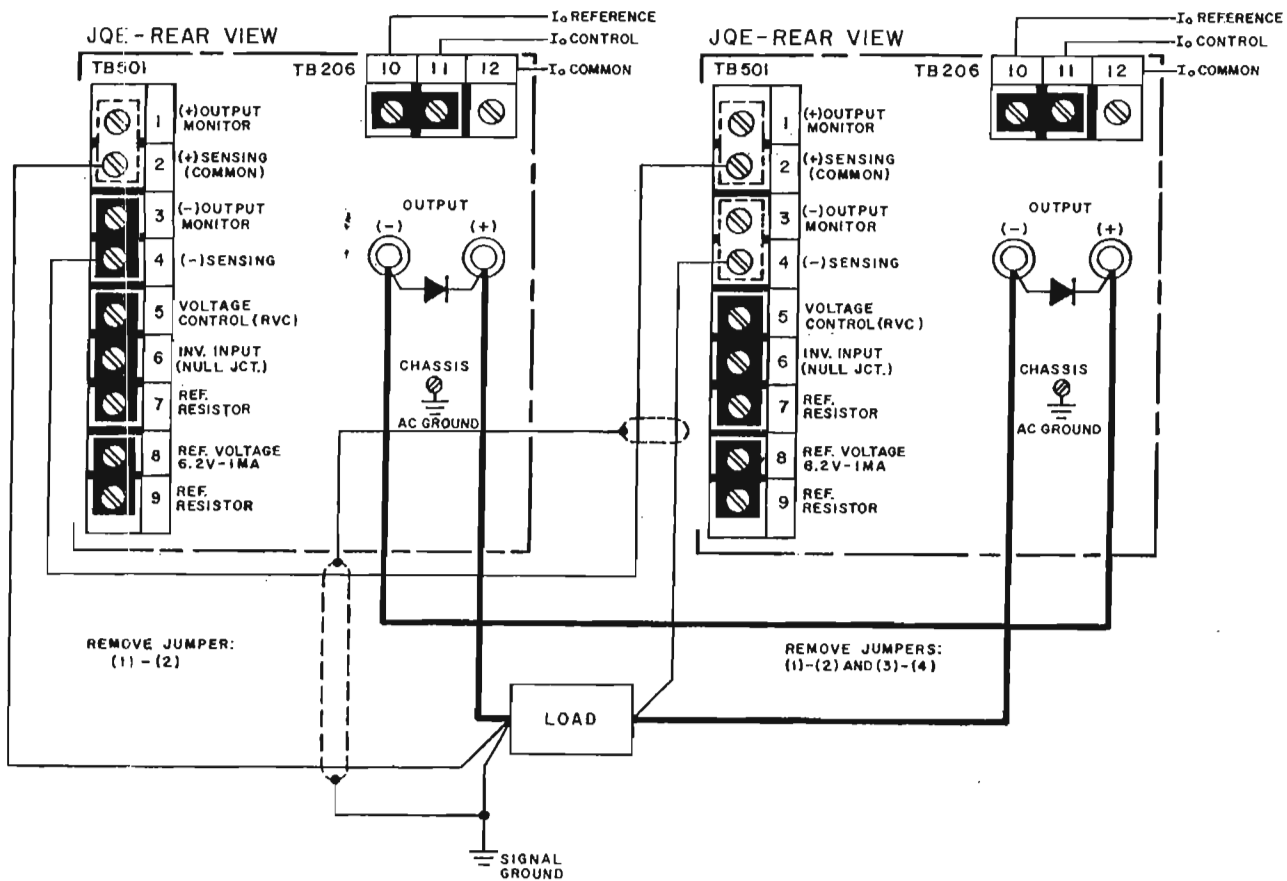
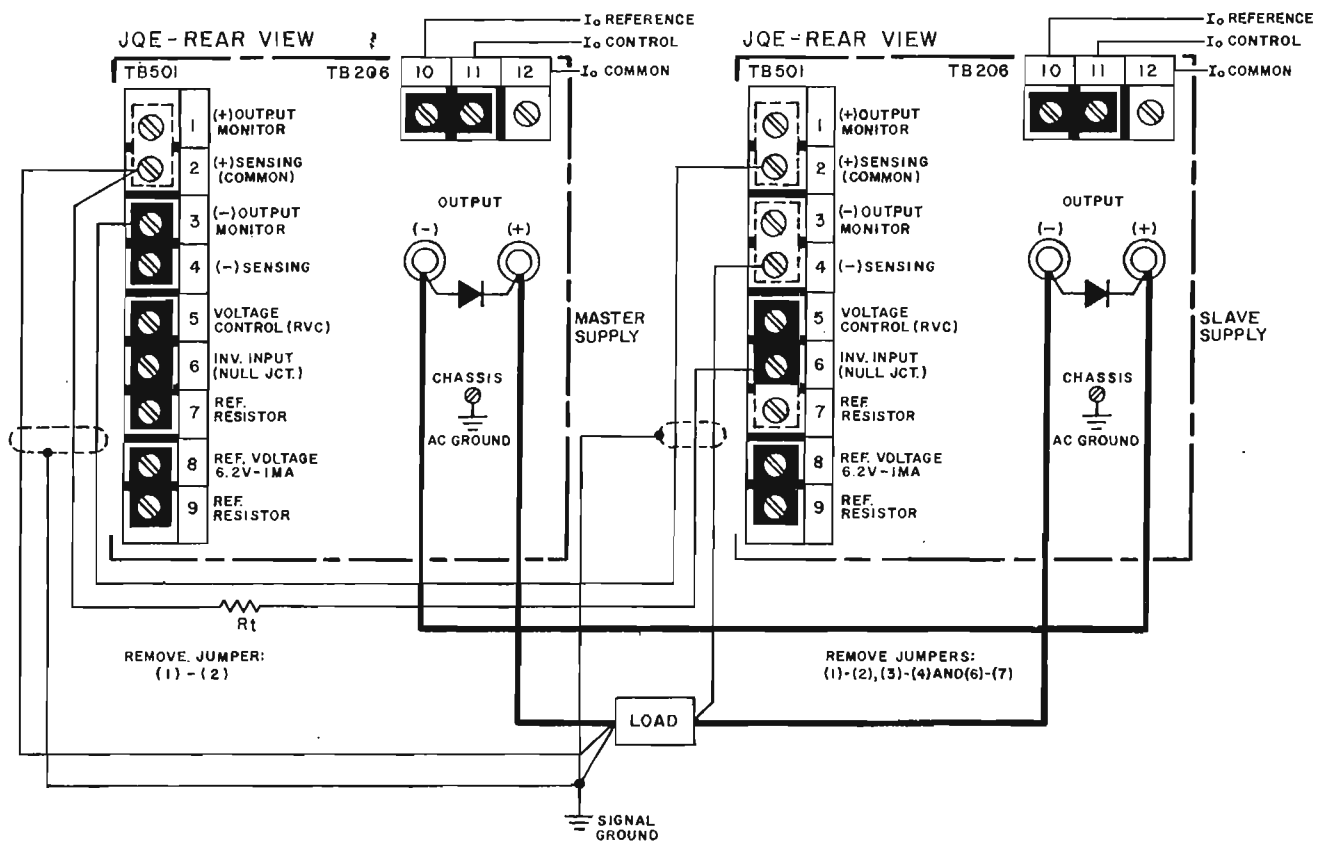

FIG. 3-18 AUTOMATIC SERIES CONNECTION OF JQE POWER SUPPLIES
FIG. 3-19 MASTER/SLAVE SERIES CONNECTION OF JQE POWER SUPPLIES
3-71 GENERAL. Kepco JQE Power Supplies can be series-connected for increased voltage output, provided the specified limits on voltage to chassis are not exceeded. When series-connected, the supplies should be protected by means of a semiconductor diode across the output terminals of each power supply, as shown in FIG. 3-18. The peak inverse rating of these diodes must be at least as large as the output voltage of the supply to which they are connected. The continuous current rating of the diodes should be at least as great as the largest short-circuit current of the interconnected supplies.
3-72 Two basic series connection methods are generally used, the "Automatic Series Connection", as illustrated in FIG. 3-18; and the "Master-Slave" connection, shown in FIG. 3-19. The basic difference between these two methods lies in the manner of the output control. While in the "Automatic" connection the outputs of both supplies may be controlled individually, in the "Master-Slave" connection, control is exercised from the "Master" supply alone, while the "Slave" supply follows the master command in a ratio which may be pre-determined by the user. The latter method of series operation is therefore frequently termed "Automatic Tracking."
- Connect load as shown in FIG. 3-18. Keep voltage drop in load wires as low as practical by using heavy gauge wire.
3-74 The "Master-Slave" series connection method is illustrated in FIG. 3-19. As seen from the figure, the reference voltage ( $E_r$ ) of the "Slave" supply is disconnected and its input or null junction is connected to the output of the "Master" supply via the tracking resistor ( $R_t$ ). The "Slave" supply output is thus completely dependent on the "Master" output voltage:
- Connect load as shown in FIG. 3-19. Keep voltage drop in the load wires as low as possible by using heavy gage wire.
- Remove jumper links as shown (FIG. 3-19) and connect error sensing leads if remote sensing is desired. Sensing leads should be twisted and shielded.
- Select value of the tracking resistor ( $R_t$ ) and connect with shielded wire as shown (FIG. 3-19).